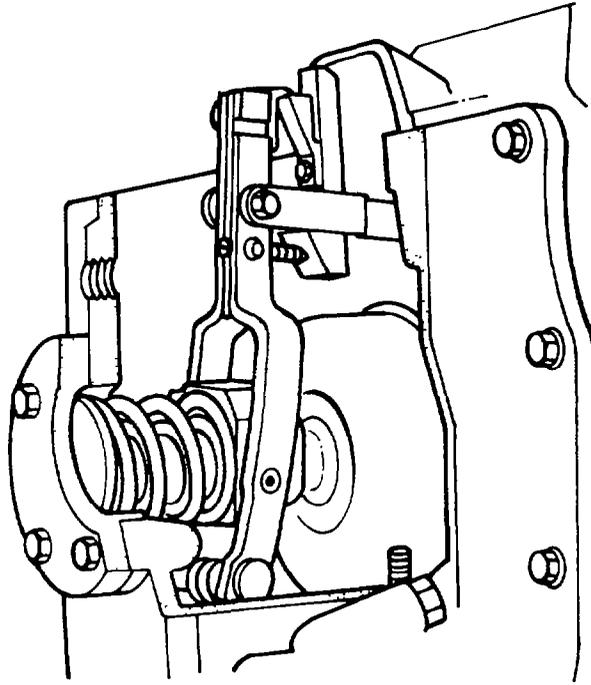

Fig. 116 — Cam Nose/Stop Plate Relationship at Stop Plate Vertical Set Point
- h. Install the adjusting screw into the threaded hole in top of the stop plate and set the vertical position of the stop plate and cam nose for a required flow of $100.5 \pm 2.5 - 104.5 \pm 2.5$ cc/500 strokes or $60.5 \pm 1.5 - 63 \pm 1.5$ cc/300 strokes (see fig. 116).